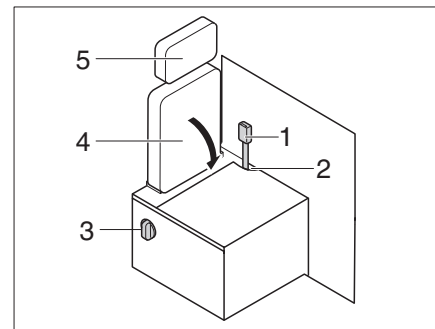

Fig. 121 Driving - living conversion
- Repeat the process in reverse order to convert the space back from the living to driving setup. Make sure that the seat belt buckle is inserted through the opening (Fig. 121,2).
- Remove the headrest (Fig. 121,5) (see chapter 8.6).
- Insert the seat belt buckle (Fig. 121,1) into the opening (Fig. 121,2).
- Engage the lever (Fig. 121,3) and fold down the backrest (Fig. 121,4).